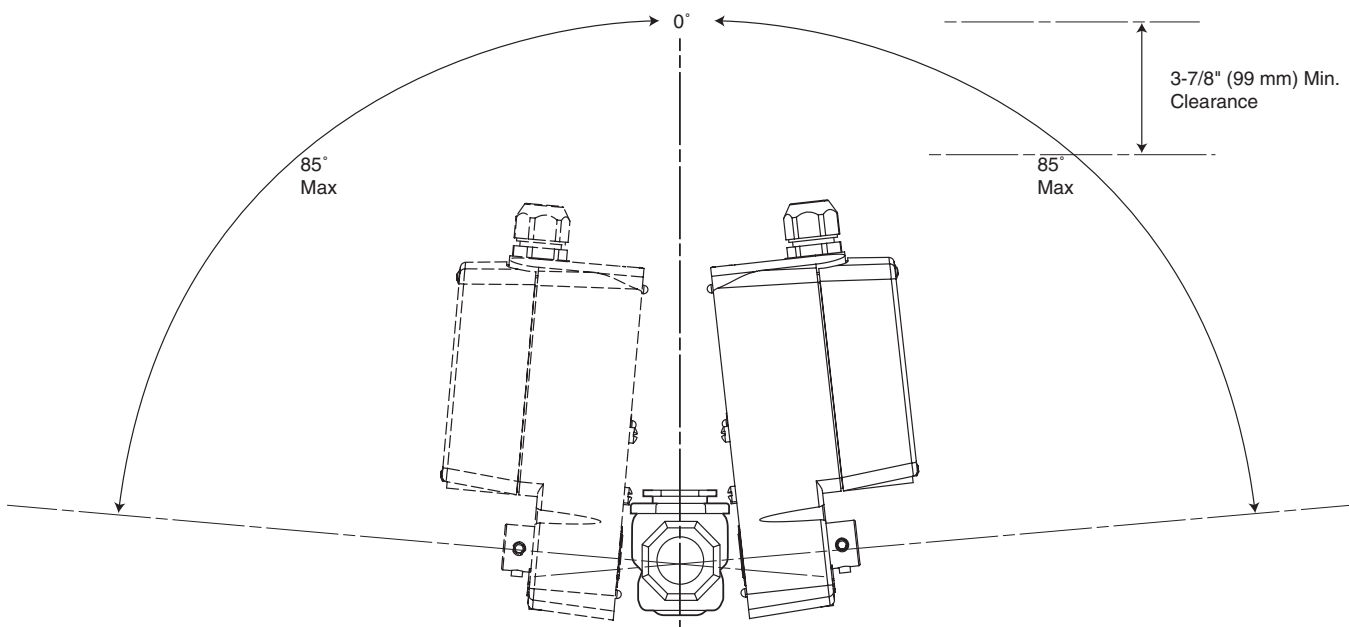
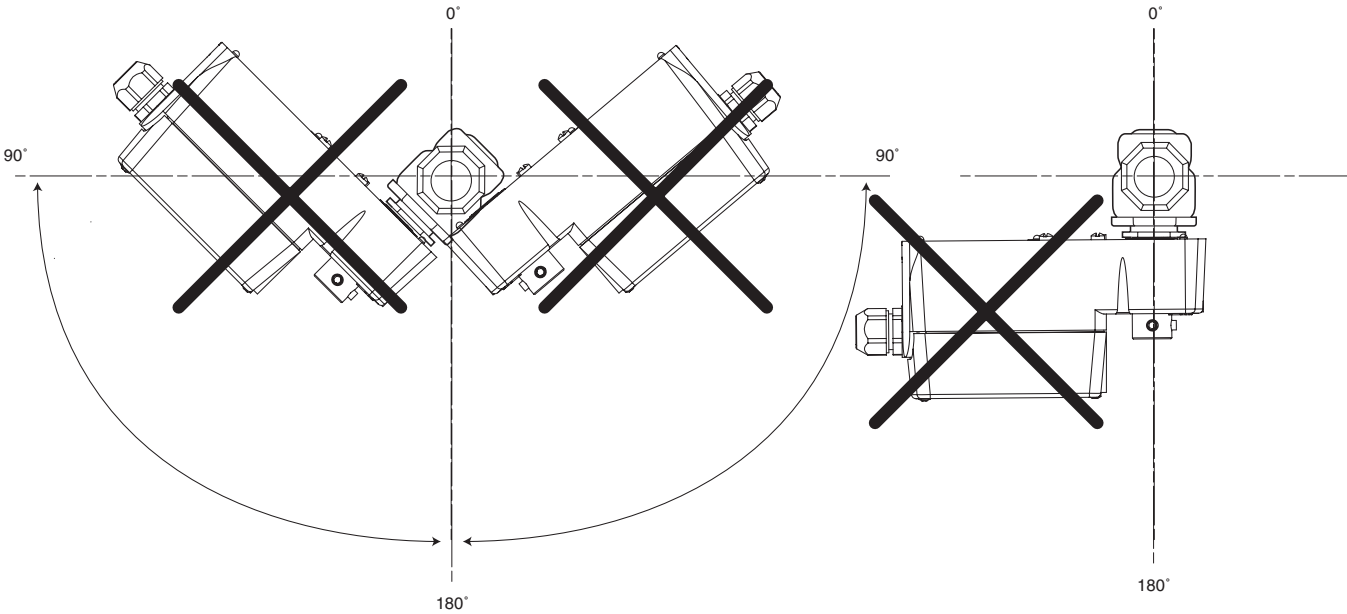

Figure-13 Acceptable Mounting Orientations.
Figure-15 Unacceptable Mounting Orientation.
The valve should be mounted in a weather-protected area, in a location that is within the ambient temperature limits of the actuator. The installation of the actuator assembly should provide clearance on all sides to allow for any maintenance that may be needed (see Figure-13 thru Figure-15).
- For non-steam applications the ball valve assembly must be mounted so the actuator is at least 5° above horizontal (Figure-13) to ensure that any condensate that forms will not travel into the mounting bracket or actuator.